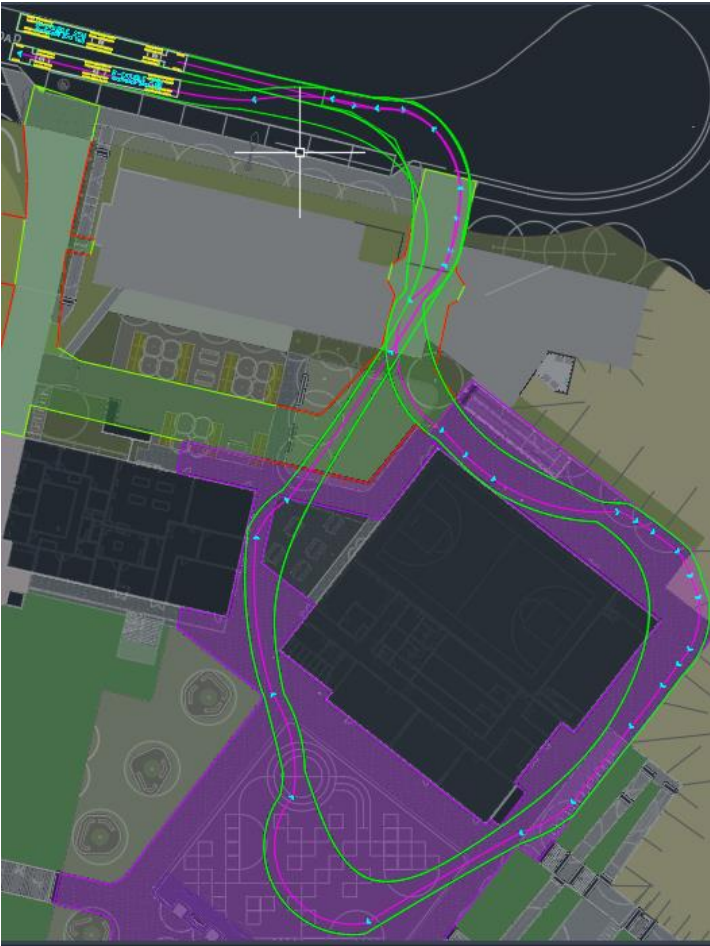

Figure 9 Dog and truck trailer – Gate 2
- A dog and truck trailer (25 metres) entering the site via Gate 2, travelling around Building B in a clockwise direction and exiting Gate 2 in a forward direction (refer to Figure 9)